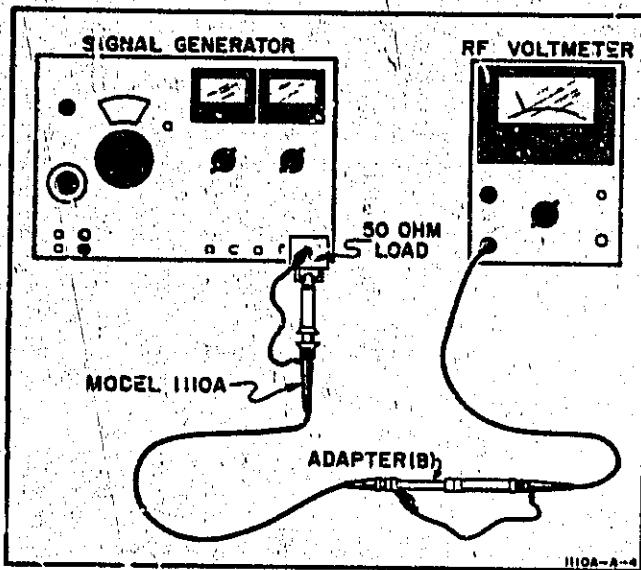

Figure 5. High Frequency Limit Test Setup
28. Low Frequency Limit. Set up test equipment for this test as indicated in Figure 5.
29. High Frequency Limit. Set up test equipment for this measurement as indicated in Figure 5.